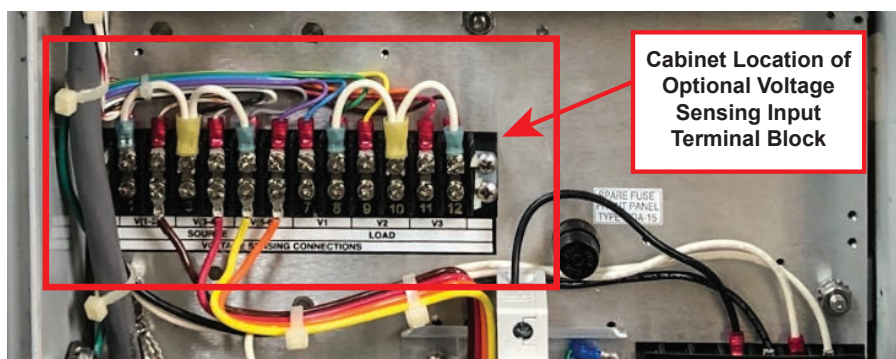

Figure 5 Location of Optional Voltage Sensing Terminal Block
- 14-Pin and 19-Pin reclosers may have an optional voltage sensing input terminal block installed (Figure 5). If the control has this optional terminal block, verify that the jumpers are in the correct locations (Figure 6). The terminal block may have a cover shield which will need to be removed.